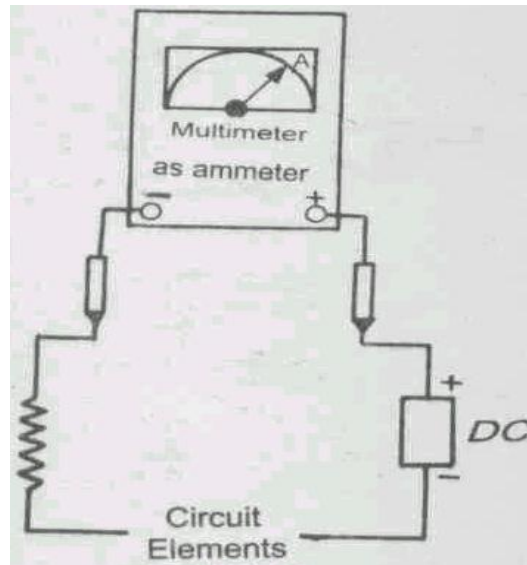

Fig.6.1 Direct current measurement in a circuit
4. Open the circuit in which the current is to be measured and connect test leads in series with the load through which current is to be measured (Fig.6.1). Keep the polarities as shown in the figure. In this case the multimeter functions like an ammeter.